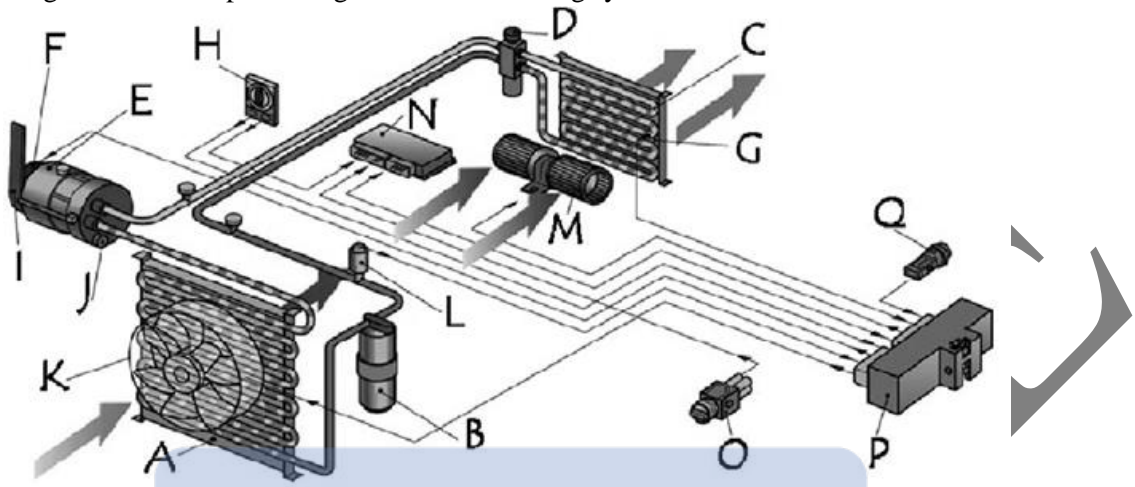

Figure 1
1. The Figure 1 below representing the air conditioning system.
- a) Identify part A, B, C, D, E and F of the **figure 1** **(6 marks)**
- b) Re-copy the **Table 1** below and write the type of pressure and temperature prevailing in the portions of the circuit of Figure 1 while specifying the physical state of each of the portions **(7marks)**